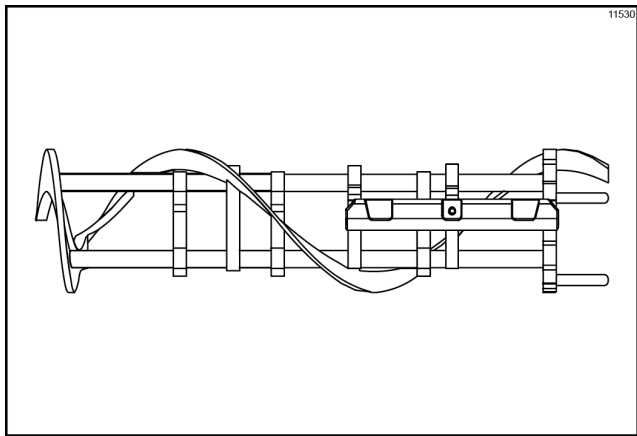

Figure-131
4. If the blades are in good condition, place the rear scraper blade over the rear holding pin on the beater. (See Figure-131.)